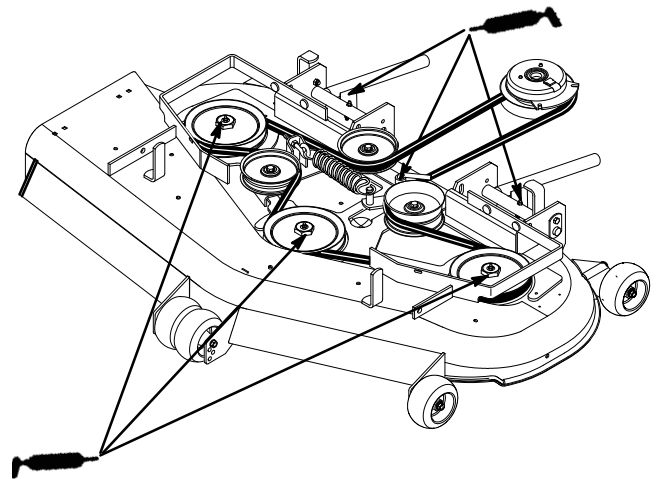

Figure 24
2. Grease the fittings on the three spindle bearings (Fig. 24).
3. Grease the idler pulley pivot (Fig. 24).
4. Grease the fittings on the push arms (Fig. 24).